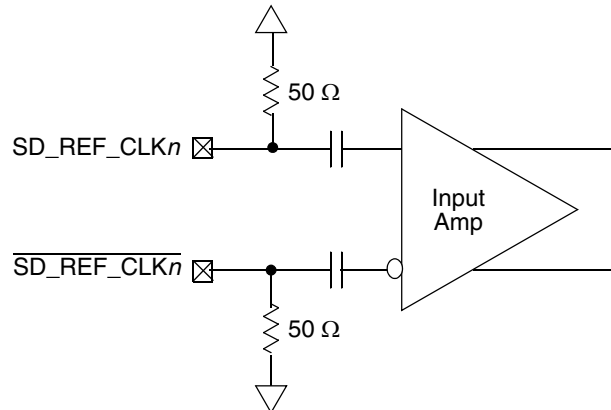

Figure 35. Receiver of SerDes Reference Clocks
Figure 35 shows a receiver reference diagram of the SerDes reference clocks.
- The SD_REF_CLKn and $\overline{SD_REF_CLKn}$ are internally AC-coupled differential inputs as shown in Figure 35. Each differential clock input (SD_REF_CLKn or $\overline{SD_REF_CLKn}$) has on-chip 50- Ω termination to SGND followed by on-chip AC-coupling.